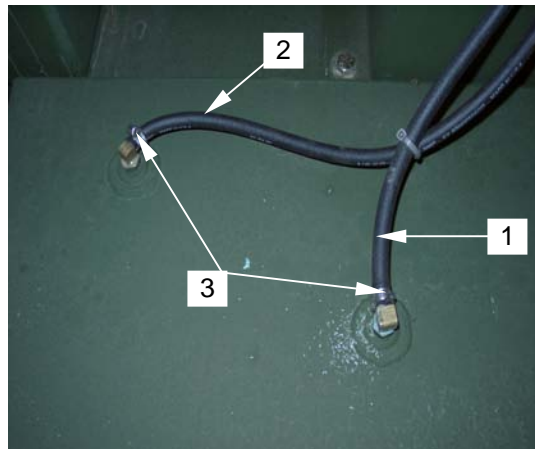

Figure 13. Installing Fuel Supply and Return Hoses
35. Install the fuel supply (**figure 13, item 1**) and return hoses (**figure 13, item 2**) onto the fuel tank fittings. Tighten hose clamps (**figure 13, item 3**).